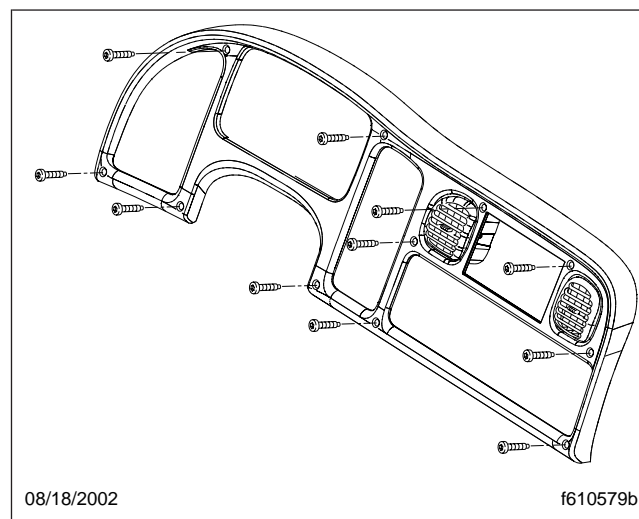

Fig. 2, Dash Trim Piece
4. Remove the dash trim piece by removing the 11 screws securing it. All fasteners for this procedure are 10–16 Torx-drive dog-point screws, 7/8-inch long (22 mm). See Fig. 2.